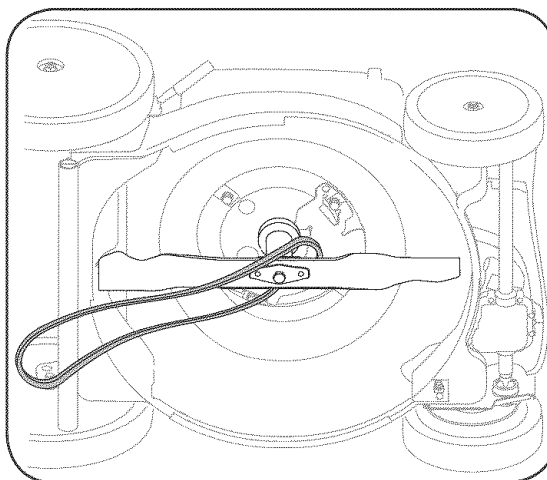

Figure 7
3. Roll the belt off the transmission pulley. Tip mower on its side with the air filter up to access belt from underside of mower. Slide belt off of engine pulley and thread through the opening in the belt keeper bracket. Then remove the belt from around the blade by removing over one end at a time. See Figure 7.